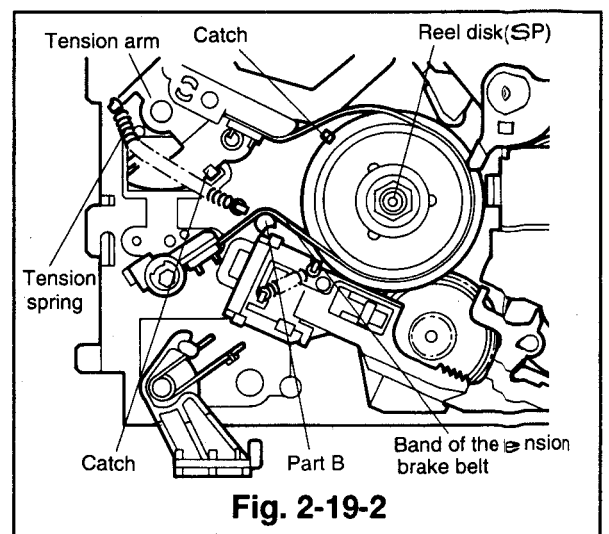
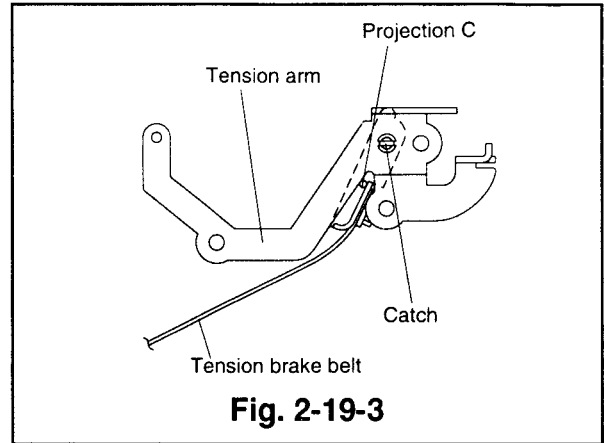
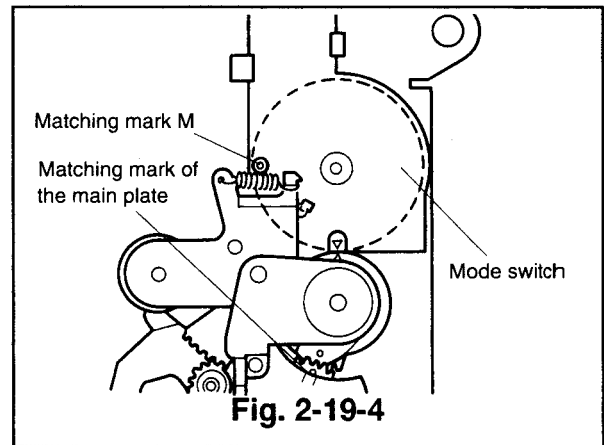
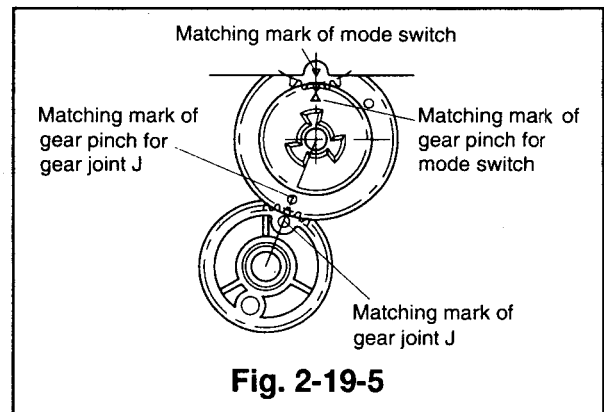

Fig. 2-19-2
Fig. 2-19-3
Fig. 2-19-4
Fig. 2-19-5
- ⑤ Remove the tension spring, unfasten the catch shown in Fig. 2-19-2, and raise the tension arm upward to remove it.
- ⑥ Reverse the tension arm, unfasten the catch with a tweezers as shown in Fig. 2-19-3 to remove the tension brake belt.
- ① Insert the catch in the position of the tension arm as shown in Fig. 2-19-3 to fasten the tension brake belt on the tension arm. (Take care not to let projection C, next to the catch of the tension brake belt touch the tension arm.)
- ② Install the tension arm, where the tension brake belt is fastened, on the main plate.
- ③ Fasten the tension brake belt around the supply reel disk. (The band of the tension brake belt must pass the outside of the catch shown in Fig. 2-19-2 and inside of the part B.)
- ④ Attach the tension spring.
- ⑤ Install the sub brake(SP) and sub spring(SP). (Refer to Para. 2-14 for the installation method.)
- ⑥ Supply voltage(approximately 5V), reversing the polarity used in ② of the Removal method, to set the motor to the unloaded position.
- ⑦ Make sure that the holes (matching mark M) on the body and cogwheel of the mode switch align with each other as shown in Fig. 2-19-4. At the same time confirm that the hole of the gear pinch aligns with the matching marks of the gear joint J and the ∇ mark on the mode switch cogwheel, refer to Fig. 2-19-5. This indicates the J deck is in the EJECT mode.
- ⑧ If the deck is not completely set to the eject mode, turn part D of the pulley worm J by hand to set the eject mode.